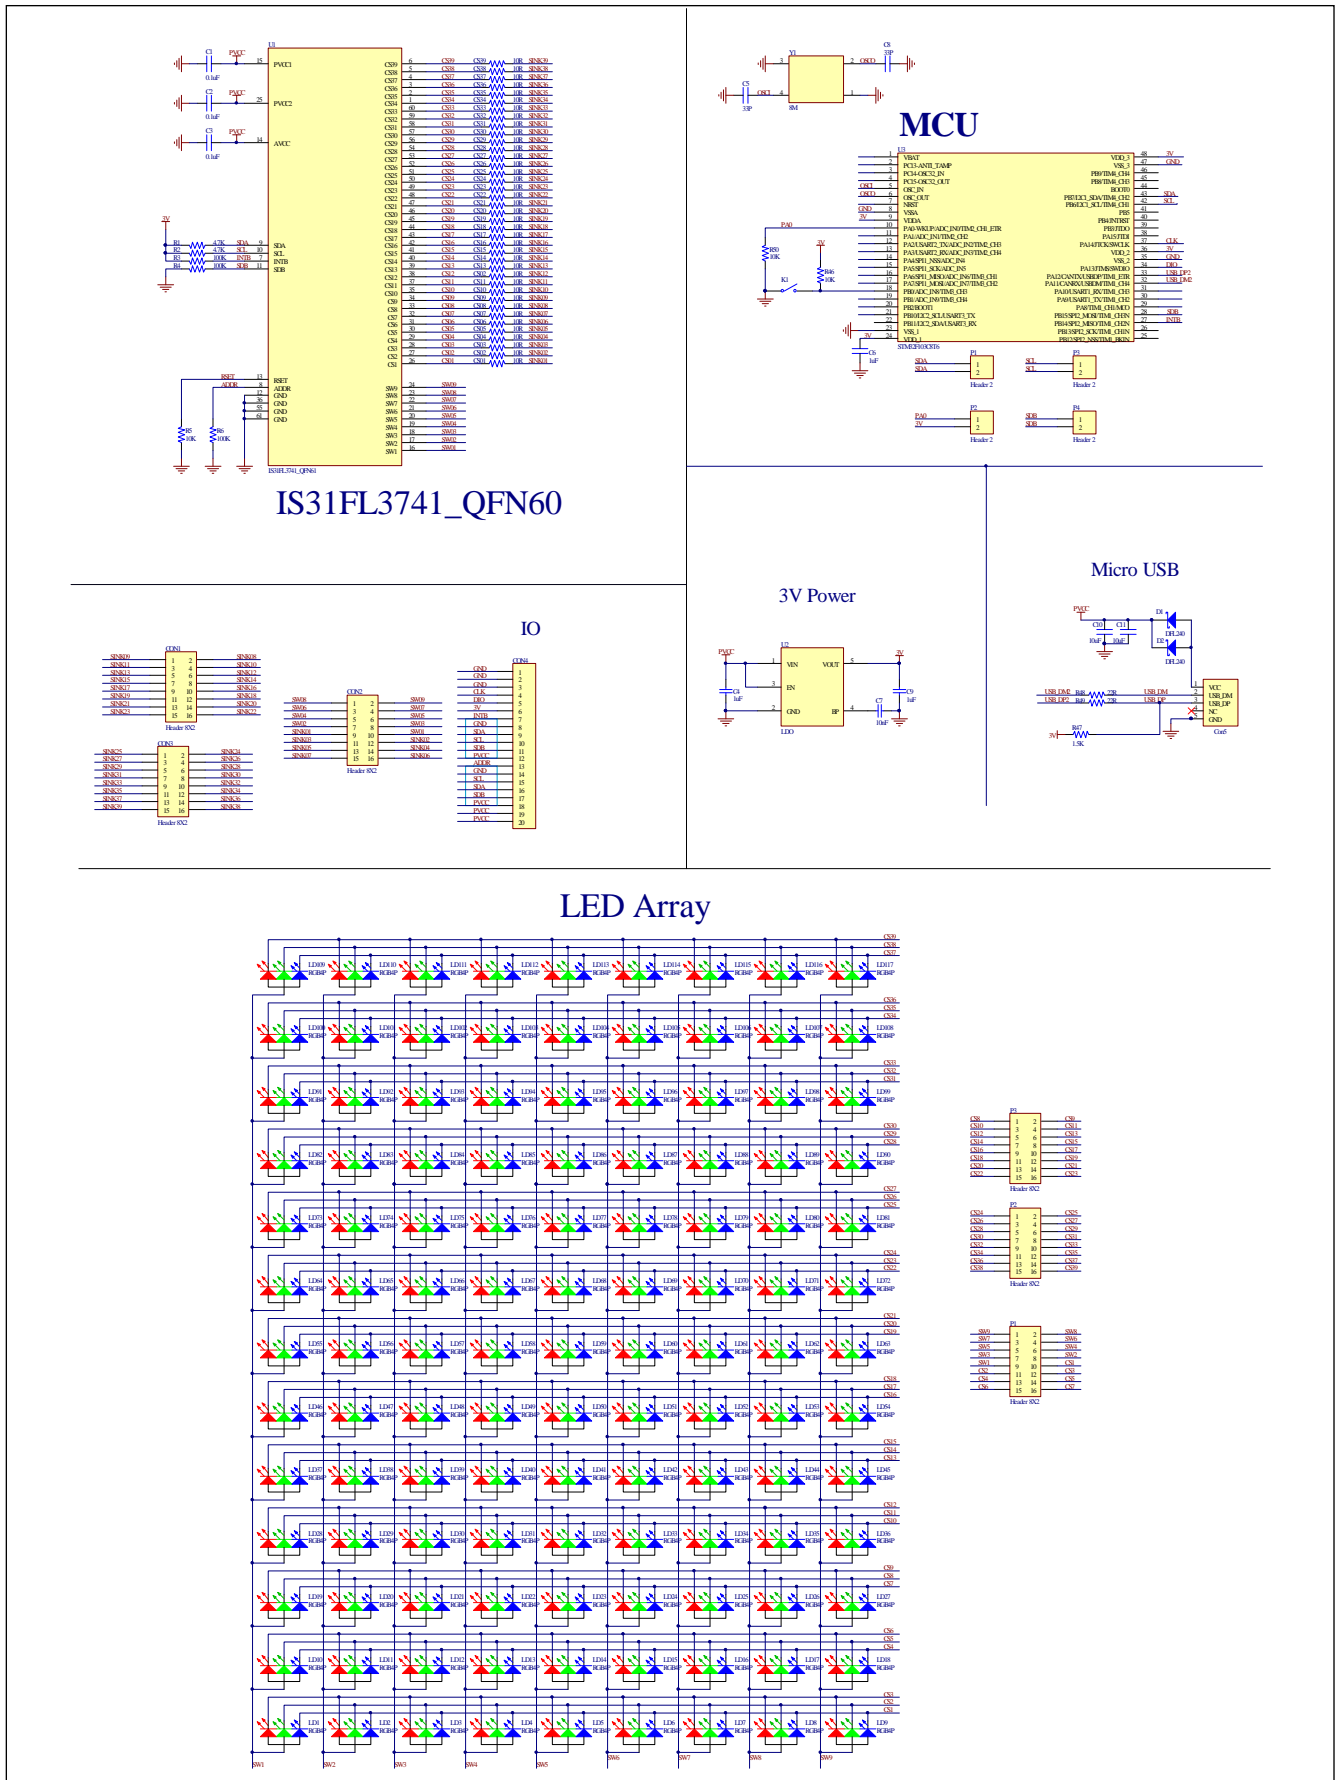

Figure 3: IS31FL3741 Application Schematic
*Bill of Materials, refer to Figure 3 above.*